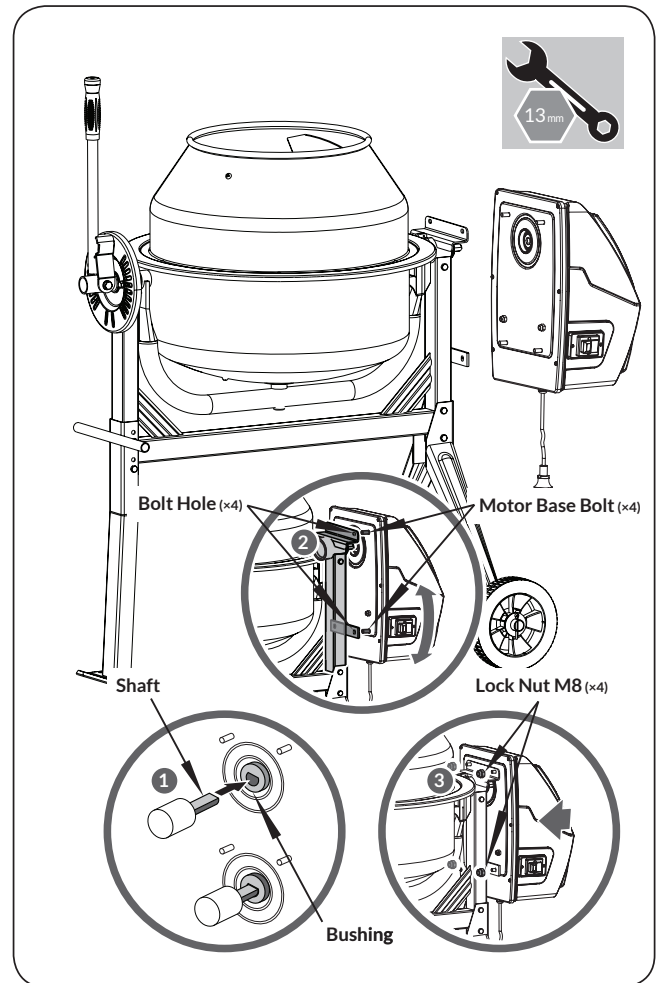

**Figure 5b**
- Insert the spring into the bar pipe, hold the spring in place with a finger, and place the bar over the larger diameter shaft so the spring stays inside the bar pipe. (See **Figure 5b, Illustration 1**) Press down on bar pipe until the holes in the bracket line up with the hole drilled in the shaft. (See **Figure 5b, Illustration 2**) Insert a M10×65 hex bolt through the hole, place a flat washer on the bolt, and secure with nut. (See **Figure 5b, Illustration 3**) Secure the nut against the bracket, do not overtighten as this will prevent the bracket from pivoting on the bolt.